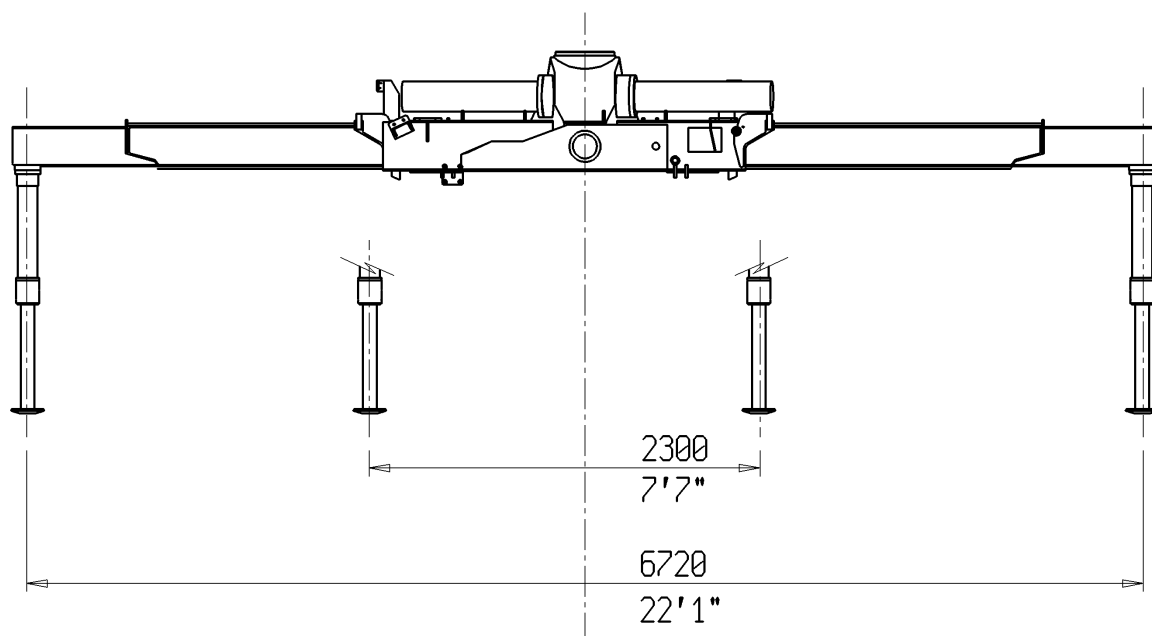

Fig.6-3
6.5 BRACCI STABILIZZATORI EXTRALARGHI (Fig. 6.3)
6.5 OUTRIGGERS BOOMS IN EXTRA LARGE VERSION (Fig. 6.3)